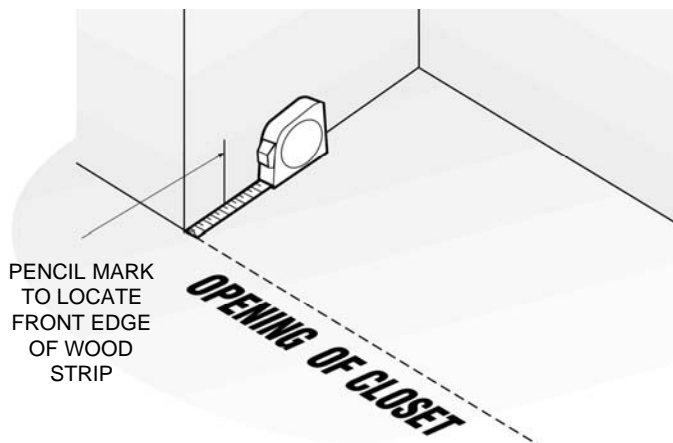

Figure 2
- Find the correct offset measurement using the **Offset Measuring Table** on Page 3 (B Measurement) for your particular installation. From the front edge of closet opening inward, measure using dimension from table and make a pencil mark on wall. Do this on both walls, i.e., right and left walls (See Figure 2).